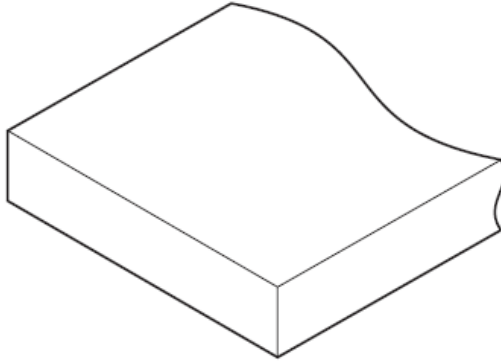

Fig. 3
- 4 Shown in **Figure 3** is an incomplete sketch of a three-ply wood. [3]